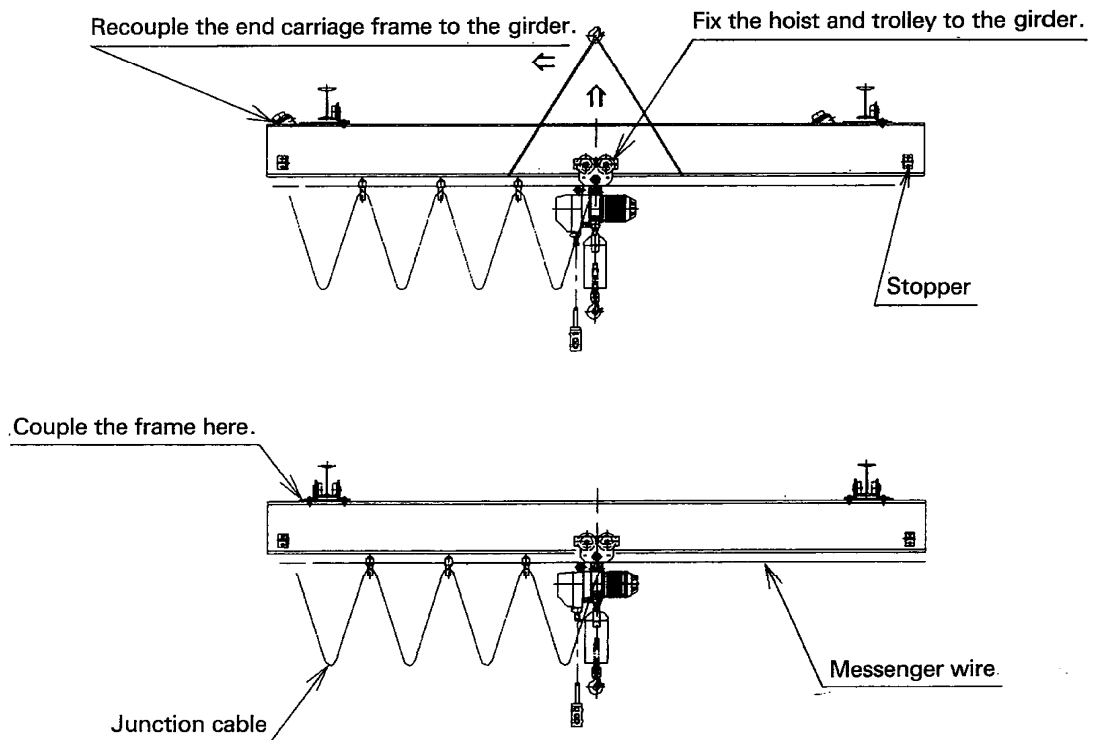

Fig. 1
- (a) Detach the end carriage frame from the girder as shown in Fig. 1, then temporarily fix it to the girder with rope or other means.
- (b) Installing as shown in Fig. 1.